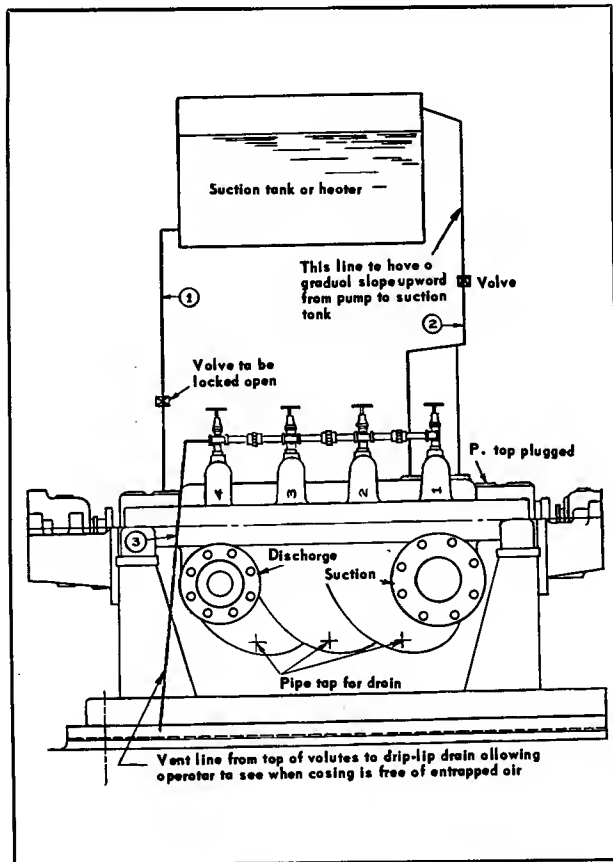

Fig. 7 — Recommended vent lines for multi-stage boiler feed pumps.
1. Suction Vent Pipe (Fig. 7, 8, 9, line 1)
5. Stuffing Box Relief Piping (Fig. 7, 8, 9, line 1)
9. **PUMP SHOULD BE THOROUGHLY PRIMED BY VENTING AT THE TOPS OF ALL THE VOLUTES.** (Refer to Vent Line 3 — Fig. 7.)